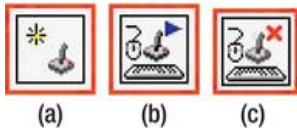

Figure 10-18. (a) The Initialize Joystick Function, (b) the Acquire Input Data Function, and (c) the Close Input Device Function
- *Initialize Joystick*—This function starts the communication between the computer and the joystick that you selected with the device index (see Figure 10-18(a)).
- *Acquire Input Data*—This function gets the data from the joystick device, such as button information and axis information (see Figure 10-18(b)).
- *Close Input Device*—This function closes out the input device session (see Figure 10-18(c)).